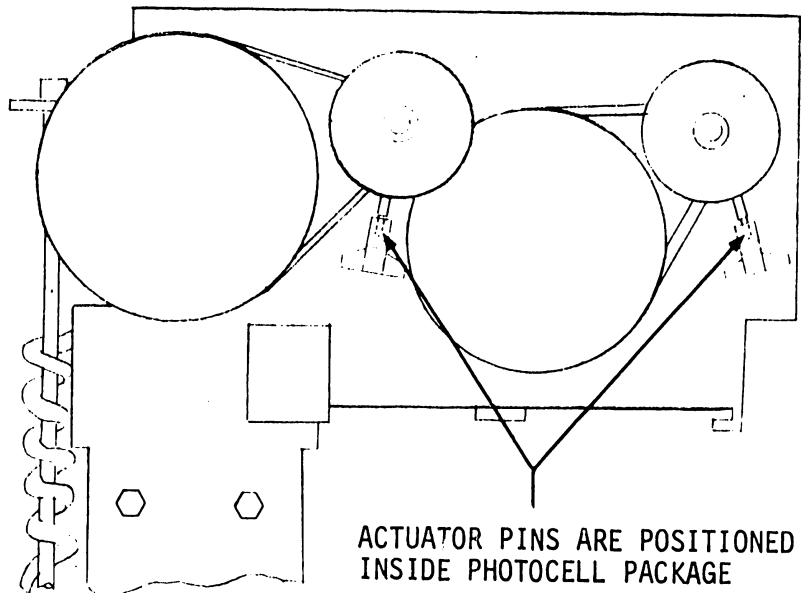

FIGURE 28
- (h) With the carrier and the Y arm in the home position, the actuator pins should be inside the LED/photocell packages. See Figure 28.